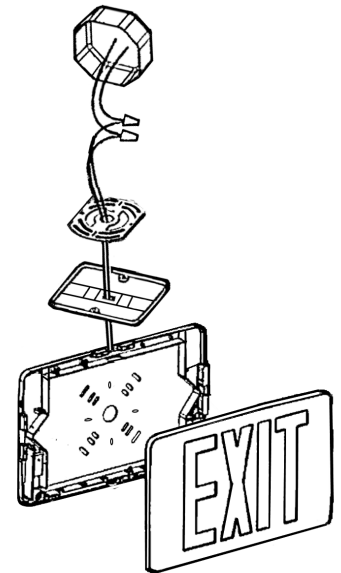
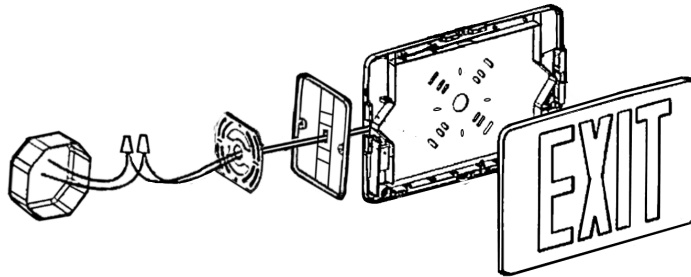

Figure 3 - Ceiling Mount
Figure 4 - Wall Mount
- Run the wires through the mounting bracket as seen in "Figure 4- Wall Mount" or in "Figure 3 - Ceiling Mount."
NOTE: Figure 3 and Figure 4 shown as single face install, for double face: install additional EXIT faceplate.